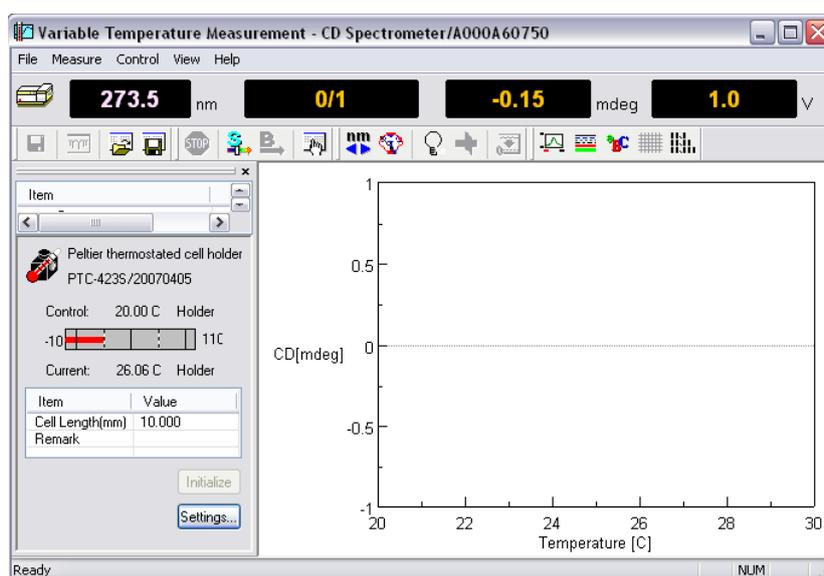

Figure 6.1 [Temperature Variable Measurement] window
- (3) Select [PTC-423S] from the [Control] menu or click <Settings...> button of Figure. 6.1. The following dialog box appears.
- (1) Click the  button or select [Parameters...] from the [Measure] menu of Figure. 6.1. The following dialog box appears. The parameters setting dialog box is composed of the [Temperature], [General], [Control], [Information] and [Data] dialog boxes. Clicking a tab at the top of the dialog box changes the dialog box. Refer to Section 3.1.1 for descriptions of these functions.
- 3) Ensure that the power of Peltier accessory is turned ON and the temperature description of Figure. 2.13 is displayed as shown in Figure. 6.1.